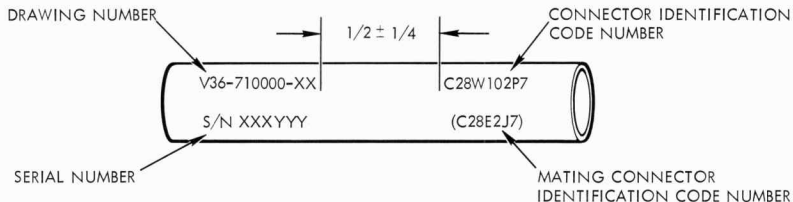

FIGURE 1
- The mating connector number in parenthesis. (See Figure 1).